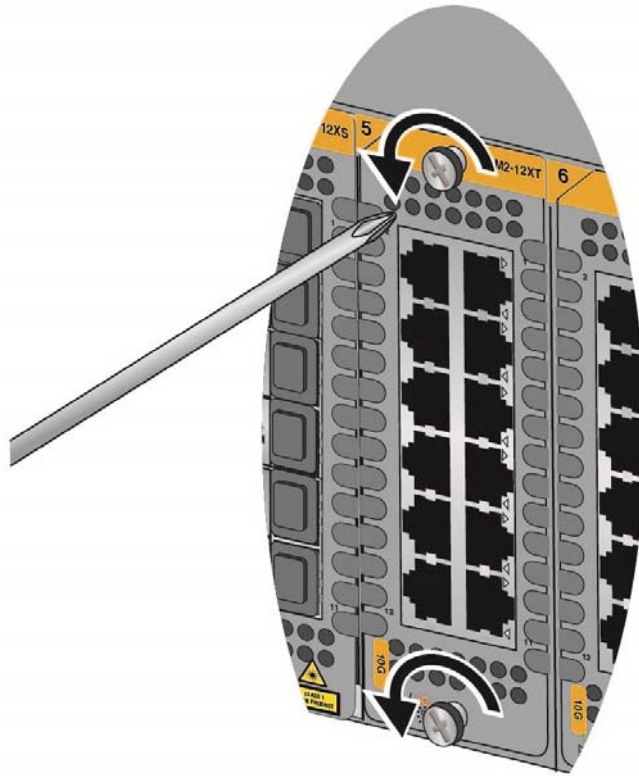

Figure 107. Loosening the Screws on the Ethernet Line Card
4. Use a #2 Phillips-head screwdriver to loosen the two screws on the faceplate of the card. Refer to Figure 107 on page 146.